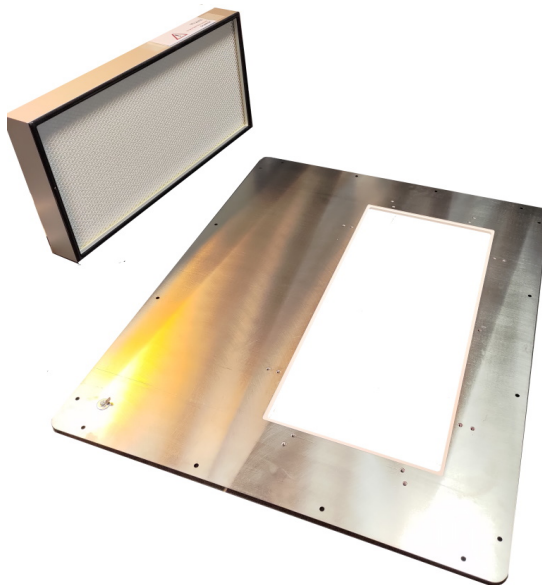

Figure 4-27 Replacing the HEPA filter
- 5.4. Install the new filter, see Figure 4-27.